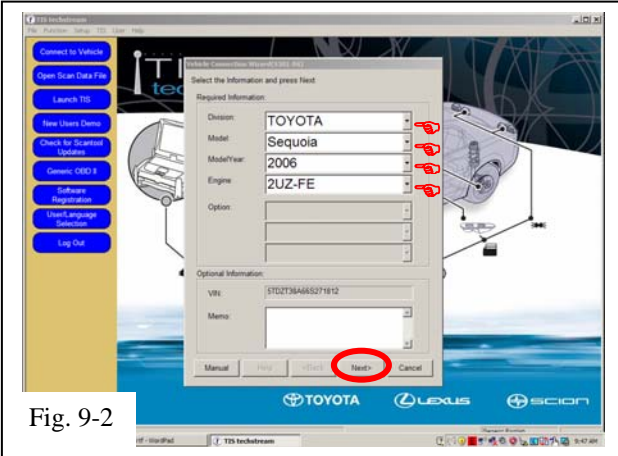

Fig. 9-2
- Confirm that the information displayed on the Vehicle Connection Wizard is correct. If not make the appropriate selections from the Drop Down Menus then click Next. (Fig. 9-2)